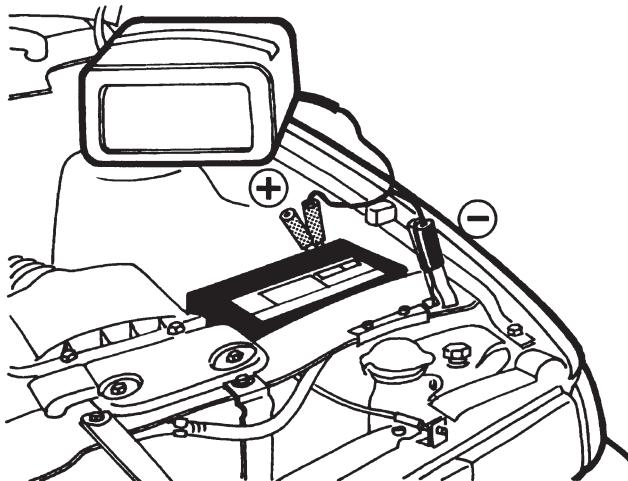

FIGURE 7: CONNECTION TO NEGATIVE-GROUNDED BATTERY
5. For a negative-grounded vehicle, connect POSITIVE (RED) clamp from battery charger to POSITIVE (POS, P+) ungrounded post of battery. Connect NEGATIVE (BLACK) clamp to vehicle chassis or engine block away from battery. Do not connect clamp to carburetor, fuel lines, or sheet-metal body parts. Connect to a heavy-gauge, unpainted metal part of the frame or engine block (see Figure 7).